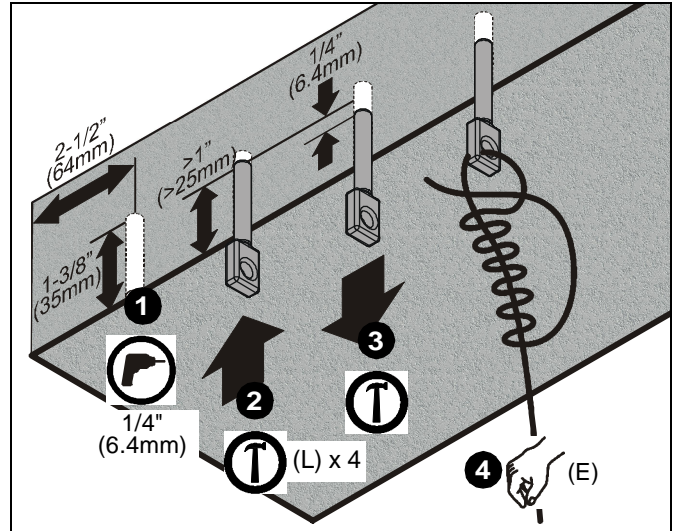

Figure 8
1. Drill 1/4" (6.4mm) diameter x 1-3/8" (35mm) deep hole at each marked wire anchor support location. (See Figure 8) Ensure hole is at least 2-1/2" (64mm) from nearest concrete edge. Remove debris from hole.
2. Tap anchor (L) into each hole to a depth of at least 1" (25mm). (See Figure 8)
- Using claw portion of hammer, set each anchor (L) by pulling it out of hole approximately 1/4" (6.4mm). (See Figure 8)
- Insert support wire (E) through hole in anchor. Twist wire tightly around itself at least four complete turns, and then thread loose end between anchor and first turn (See Figure 8). Repeat for three remaining support locations.